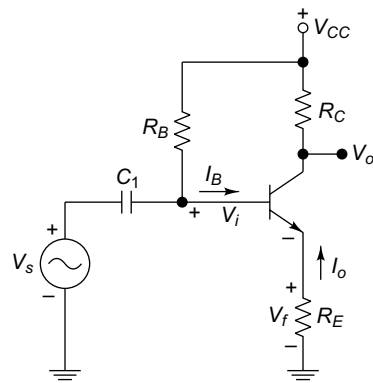
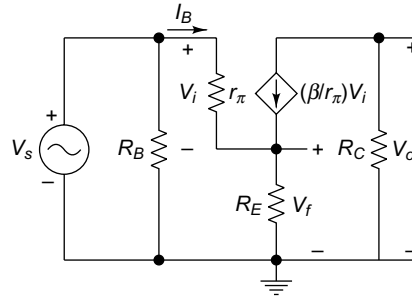
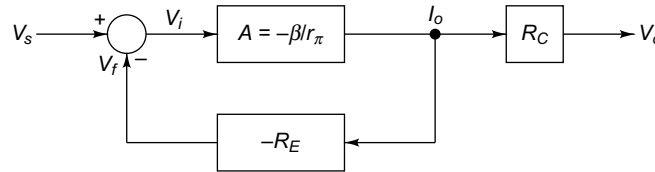

Fig. 2.33 BJT amplifier with current-series feedback
Fig. 2.34 Equivalent circuit of BJT amplifier
Fig. 2.35 Block-diagram representation of BJT amplifier with current-series feedback
The emitter current feedback amplifier is shown in Fig. 2.33 and its small-signal model is depicted in Fig. 2.34. It is clear from Fig. 2.33 that the feedback voltage is proportional to the emitter current which is being fed negatively. The R_B resistance across base and V_{CC} does not affect voltage gain of the amplifier. The block-diagram representation of BJT amplifier with current series feedback is illustrated in Fig. 2.35.
2.16 Determine the voltage gain of BJT amplifier with current-series feedback as depicted in Fig. 2.33 with the following parameters $\beta = 100$, $r_{\pi} = 800 \, \Omega$, $R_C = 2.47 \, \text{k}\Omega$, $R_E = 470 \, \Omega$, and $R_B = 470 \, \Omega$.